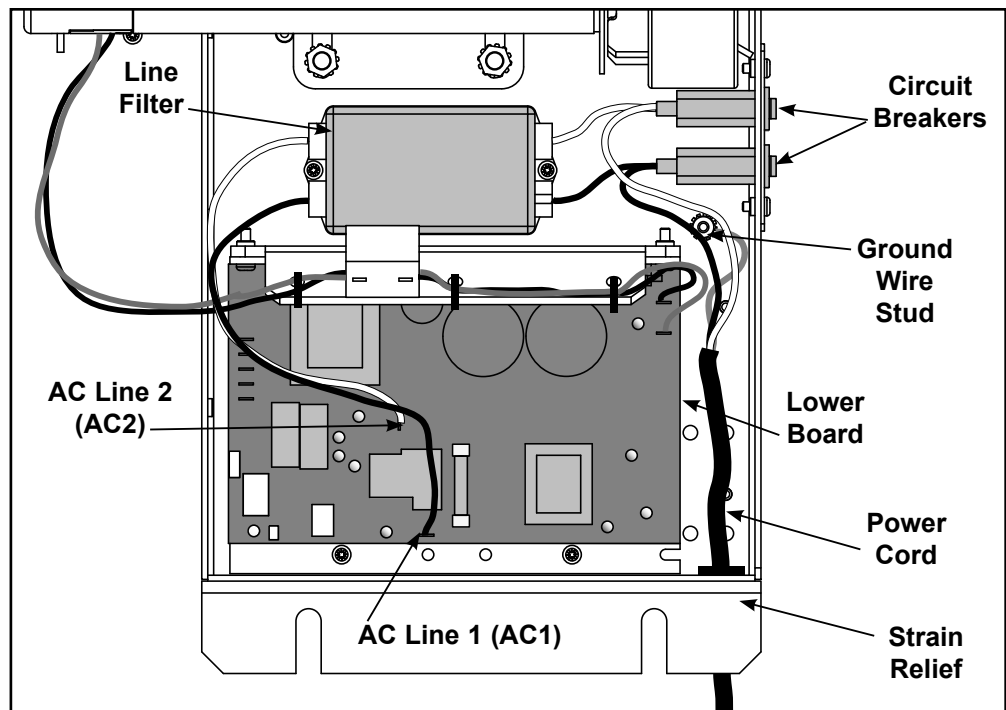

Figure 21a (425T)
- A. Using a 3/8" nut driver or socket wrench, remove the nut securing the ground wire to the motor base plate. See Figure 21a.
- B. Unplug the black and white fast-on connectors from the circuit breakers. See Figure 21a.
- C. Connect the black fast-on connectors from the power cord to the circuit breaker with the black wire. See Figure 21a.
- D. Connect the white fast-on connectors from the power cord to the circuit breaker with the white wire. See Figure 21a.
- B. Connect the two white fast-on connectors the front circuit breaker. See Figure 21a.
- C. Connect the two black fast-on connectors the front circuit breaker. See Figure 21a.
- A. Disconnect the two fast-ons connectors that go from the line filter to the lower board (cables labeled AC1 and AC2 on the lower board). See Figure 21a or 21b.
- B. Disconnect the two fast-ons connectors that go from the line filter to the circuit breakers. See Figure 21a or 21b.
- A. Connect the white cable (AC2) from the lower board to the front left terminal on the line filter. See Figure 21a or 21b.
- B. Connect the black cable (AC1) from the lower board to the back left terminal on the line filter. See Figure 21a or 21b.
- C. Connect the white cable from the circuit breaker to the front right terminal on the line filter. See Figure 21a or 21b.
- D. Connect the black cable from the circuit breaker to the back right terminal on the line filter. See Figure 21a or 21b.
- B. Using a 1/2" open end wrench, install the two motor plate bolts and washers. See Figure 21a.